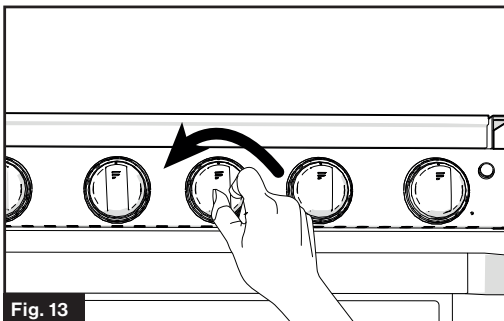

Fig. 13
2. Push and turn the appropriate burner control knob counterclockwise to the  position. (Fig. 13)